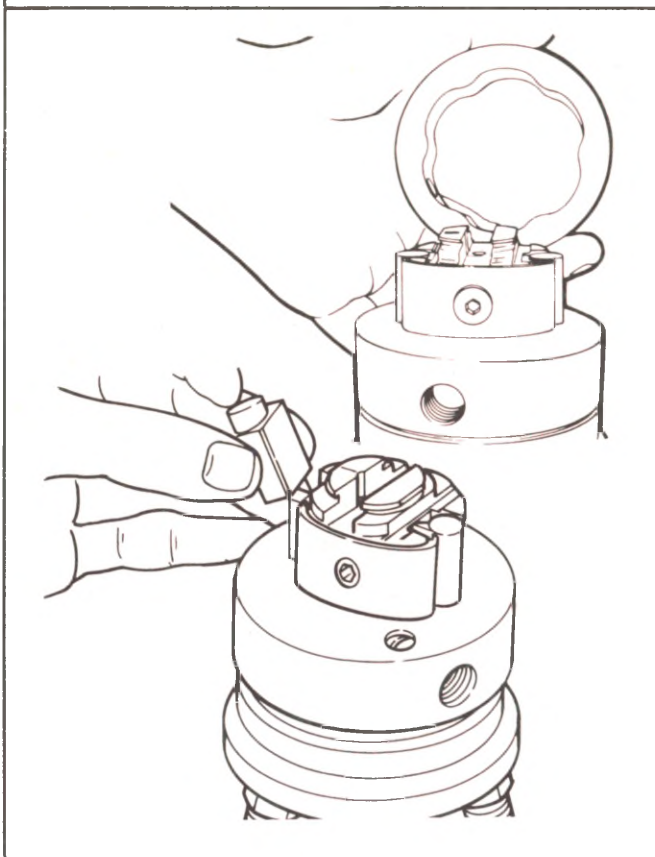

Fig. 3-20 Cam Ring, Shoes and Rollers.
25. Flush and clean the pump and all parts — except the head assembly, examine the cam ring, shoes and rollers Figure 3-20 and remove particles. Do not disturb leaf spring attaching screw as this is a critical adjustment which is performed with special equipment. Also take care not to remove pumping plungers. Be sure they remain in their bore. Consider using an air syphon gun with a suitable solvent. Clean advance mechanism parts governor assembly parts, inside of pump housing and inside the check valve.